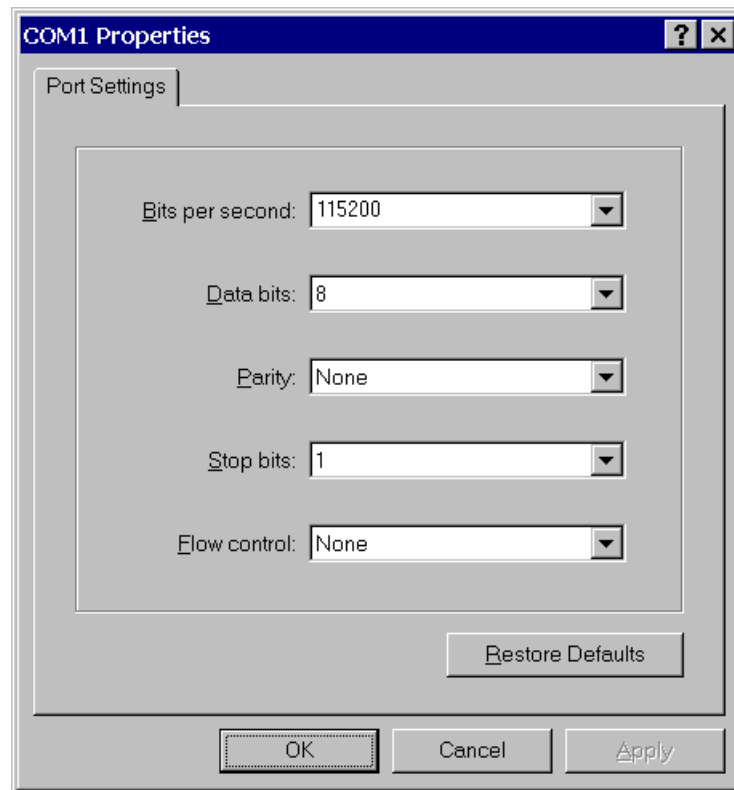

Figure 43: HyperTerminal Settings
- Select 115200 bits per second, 8 data bits, Parity None, 1 Stop bit, Flow control None. (See figure 43)